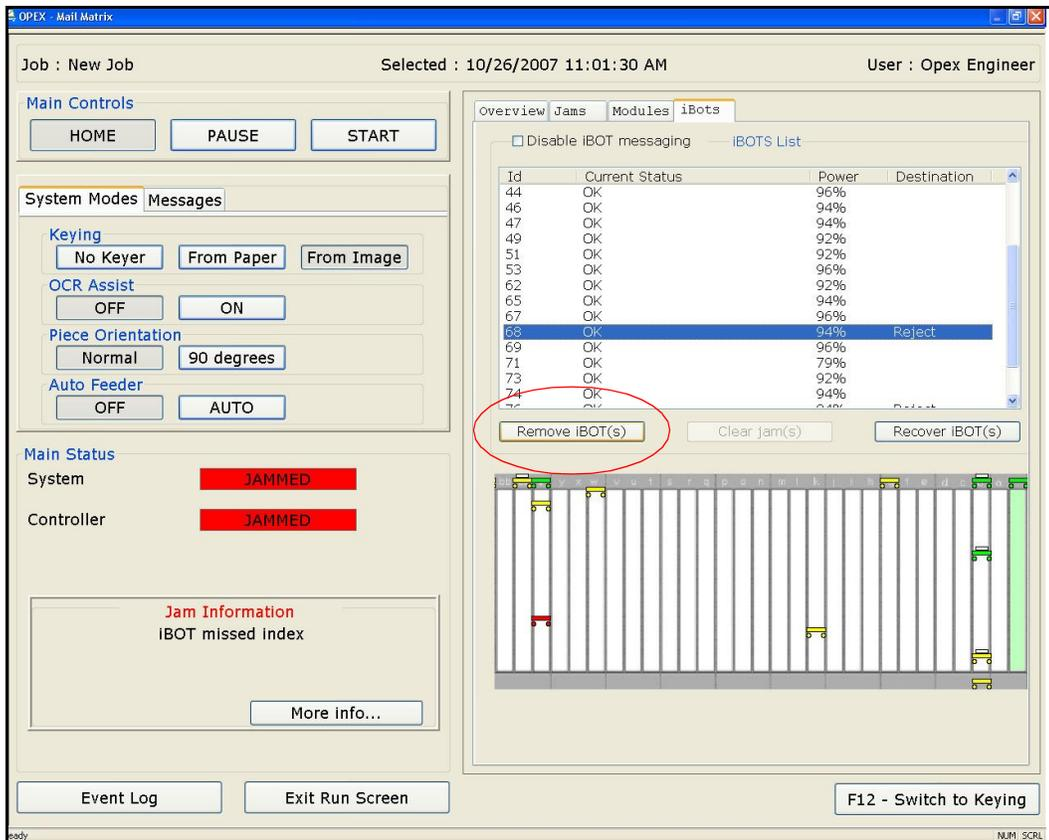

Figure 71: Run screen iBOT information tab
- b. Select the iBOT you just removed from the list and click the **Remove iBOT(s)** button (Figure 71).